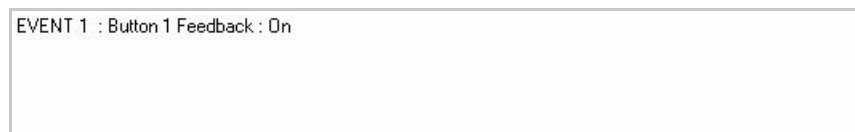

FIG. 21 Event Script window - Event 1
4. Click the **Add to Script** button. The *Event Script* window indicates **Event 1** as being the chosen button feedback: **On** (FIG. 21).